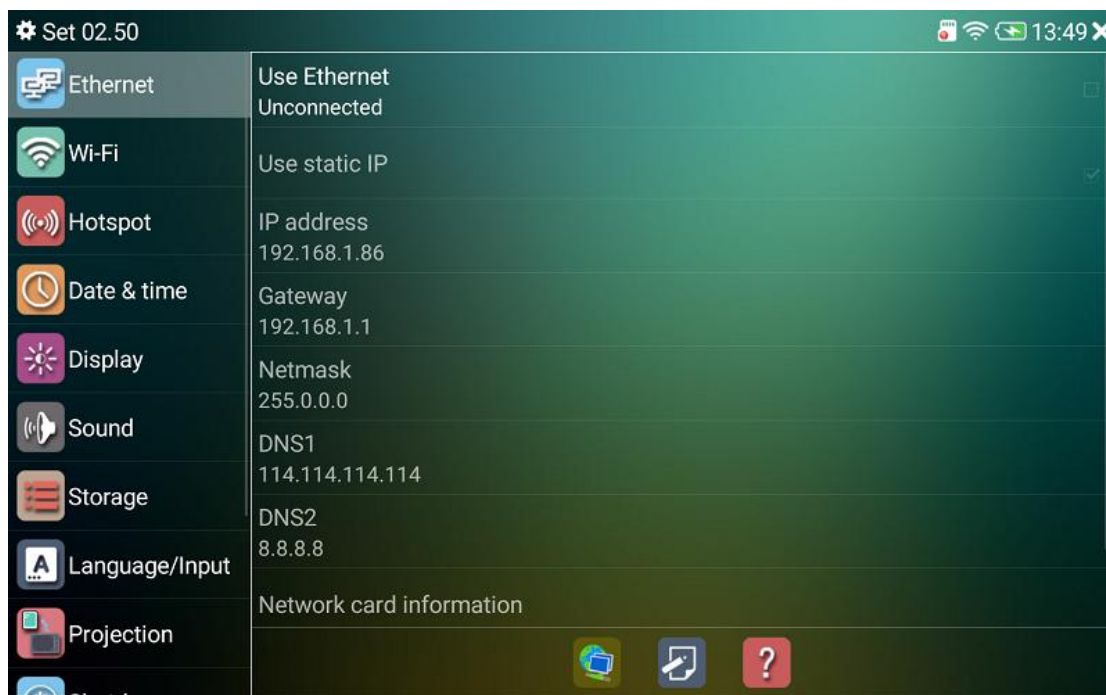

Figure 44
Touch 'Ethernet' icon on the left bar, select 'use Ethernet' column, connect a network cable to instrument LAN port, the instrument can be set to static IP or dynamic IP mode, if you want to use static IP, select 'Use static IP' column, then set the instrument IP address, gateway, subnet mask, primary DNS and alternate DNS items and you can add multi segment IP, as shown in Figure 44.
2. Use dynamic IP address mode, the instrument can be changed to dynamic IP acquisition mode, current IP is 192.168.1.86, as shown in Figure 44